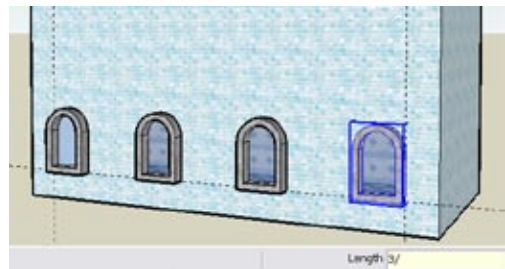

Figure 1-27
9. Type 3/ and press Enter (don't forget the forward slash symbol after the number). This gives you four windows (three copies plus the original), with three equal spaces in between (Figure 1-27).